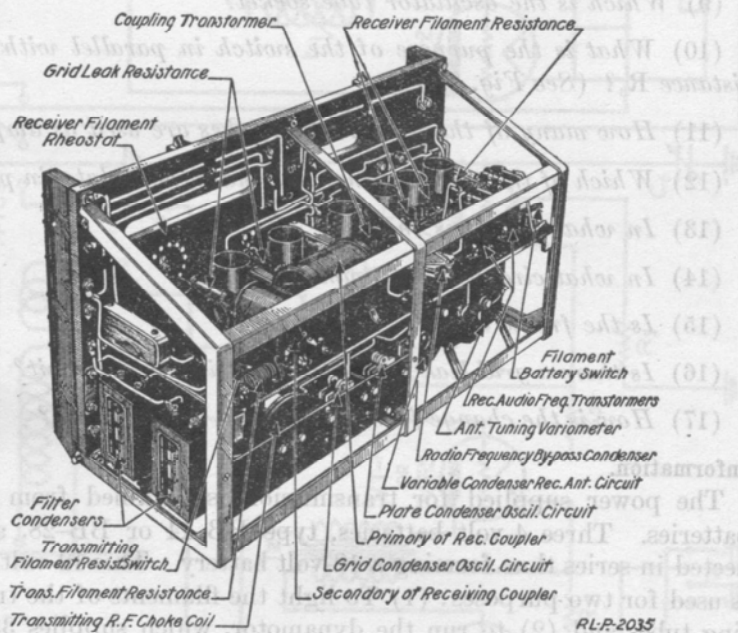
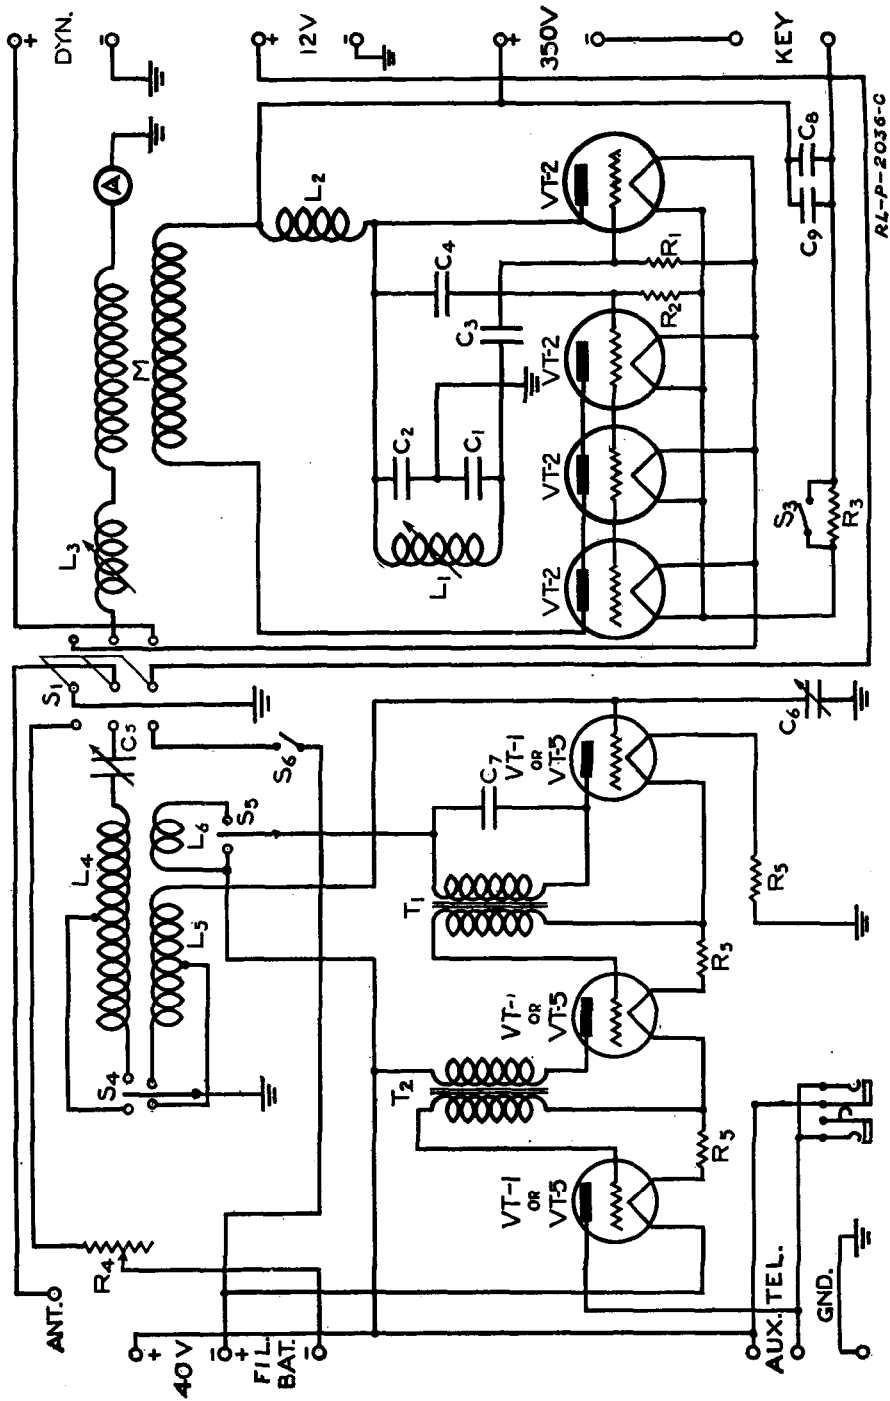

Fig. 86.—Rear view of panel and attached parts of set box BC-7.
Fig. 87.—Schematic diagram of transmitting and receiver connections in set box BC-7.
drop. Remove the leads from the binding posts marked "Key" at the lower right-hand side of the panel. Release the latches at the top and pull the panel out, then with an outward and upward motion remove the panel and the attached parts from the box. This leaves all of the parts exposed as in Fig. 86. From the diagram (Fig. 87) and the set box itself answer the following questions:
(10) *What is the purpose of the switch in parallel with the resistance R_3 ? (See Fig. 87.)*
voltage will be reduced to about 8 volts. The resistance, R_3 , (Fig. 87) serves this purpose. The switch S_3 , which is so arranged as to throw out the resistance, must be open. The switch is closed only when 8 volts is supplied to the filament circuit, as is done when the set box is used in the SCR-127 set.
b. Insert four VT-2 tubes in the four transmitting tube sockets in the set. Open switch "S₃" (Fig. 87).
b. Close the switch S_6 (Fig. 87) and close the panel, being sure that it locks into place.
b. Insert four VT-2 tubes in the transmitting sockets and three VT-1 tubes in the receiving sockets. Open switch S_3 and close switch S_6 . (Fig. 87.)